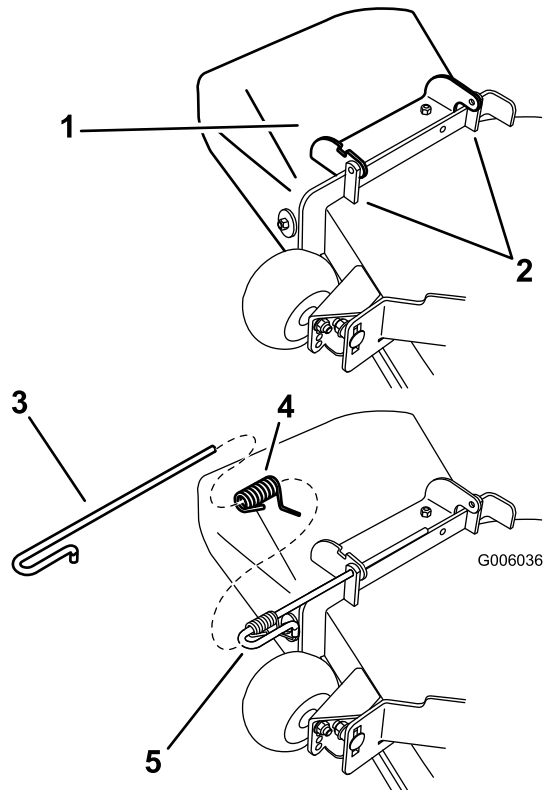

Figure 50
1. Disengage the spring from the notch in the deflector bracket and slide the rod out of the welded deck brackets, spring, and discharge deflector (Figure 50). Remove the damaged or worn discharge deflector.
2. Position the new discharge deflector assembly with the bracket ends between the welded brackets on the deck as shown in Figure 50.